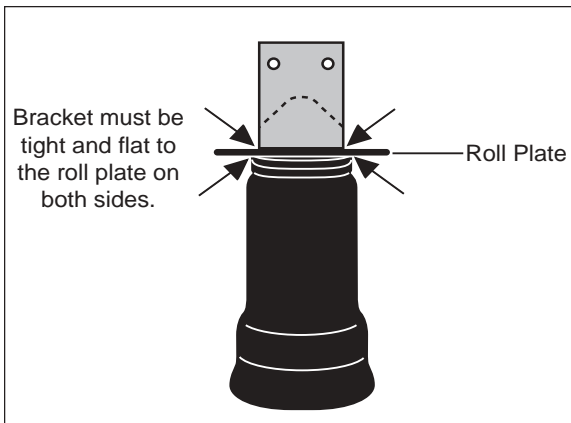

Figure 2
- b. In order to use the adapter bracket, slide the adapter under the lower bracket and lock in place by inserting the tabs on the adapter through the original mounting holes in the lower bracket (Figure 2).
- d. It is necessary to remove the lower shock absorber mounting bolt. Position and tighten the provided U-bolt with the lower bracket/adapter assembly in place. Be sure to use two (2) washers on each leg of the U-bolt (Figure 2).